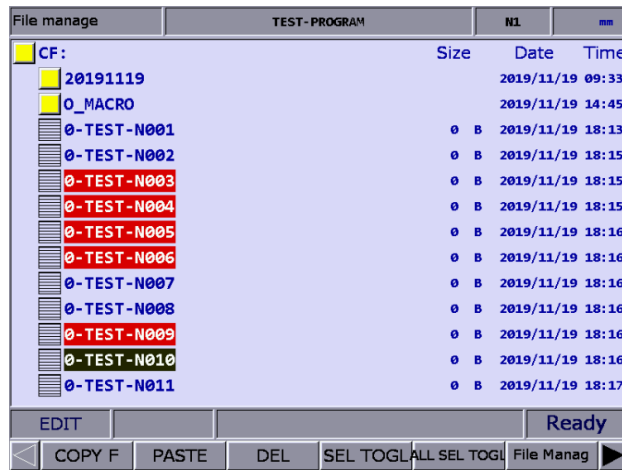

Figure 7.6.1
- (1) Set the system to EDIT mode.
- (2) Press **PRG** to switch to the PRG screen.
- (3) Enter the directory where you desire to select the files.
- (4) In the File Manage screen, move the cursor to the location of the file(s) to be selected. To select multiple files, repeat the action of selecting a file and pressing **SEL TOGL** (as shown in Figure 7.6.1). To cancel the selection, press **CANCEL**. To select all files, press **ALL SEL TOGL**. To cancel the selection of all files, press **CANCEL**.